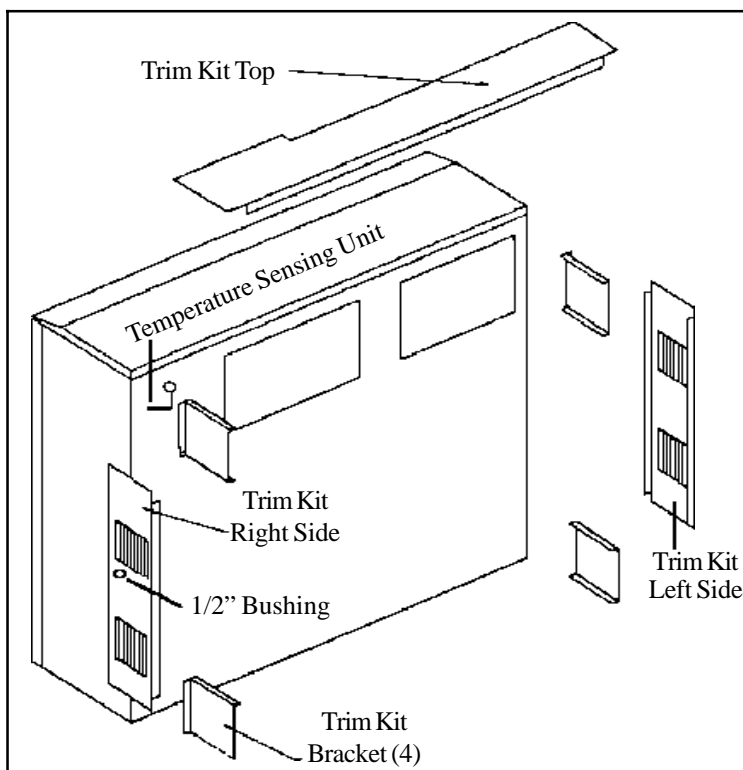

FIGURE 11
- a) Secure right and left trim kit sides to the wall and trim kit brackets with eight #8 screws provided. See figure 11. The back of the heater should now be spaced 5" from the wall.